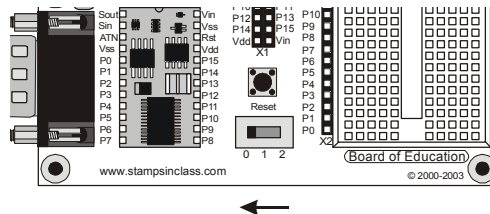

Figure 1-49
- ✓ If you are using the Board of Education Rev C, move the 3-position switch to position-0 by pushing it to the left as shown in Figure 1-49.